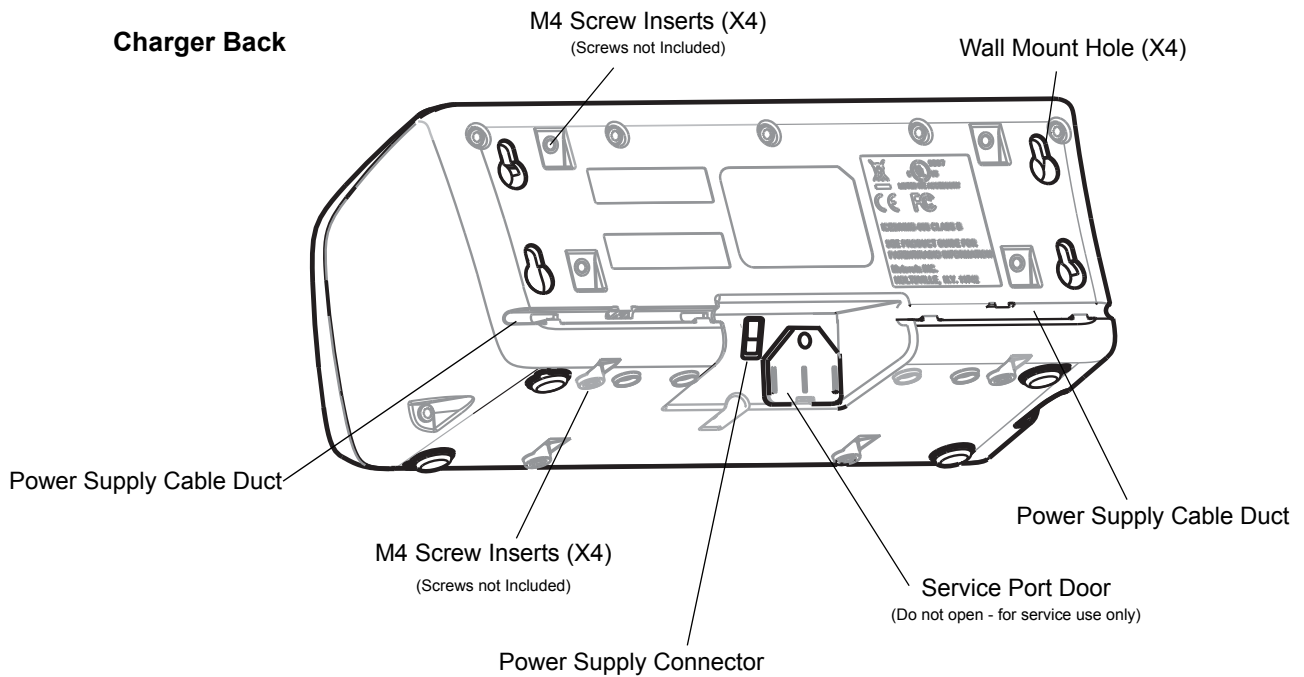

Figure 2-1 Parts of the Charger
2. The 8-Bay Battery Charger starts to charge automatically. On each bay, the flashing amber Charge Status LED (see Figure 2-1) indicates the charge status.